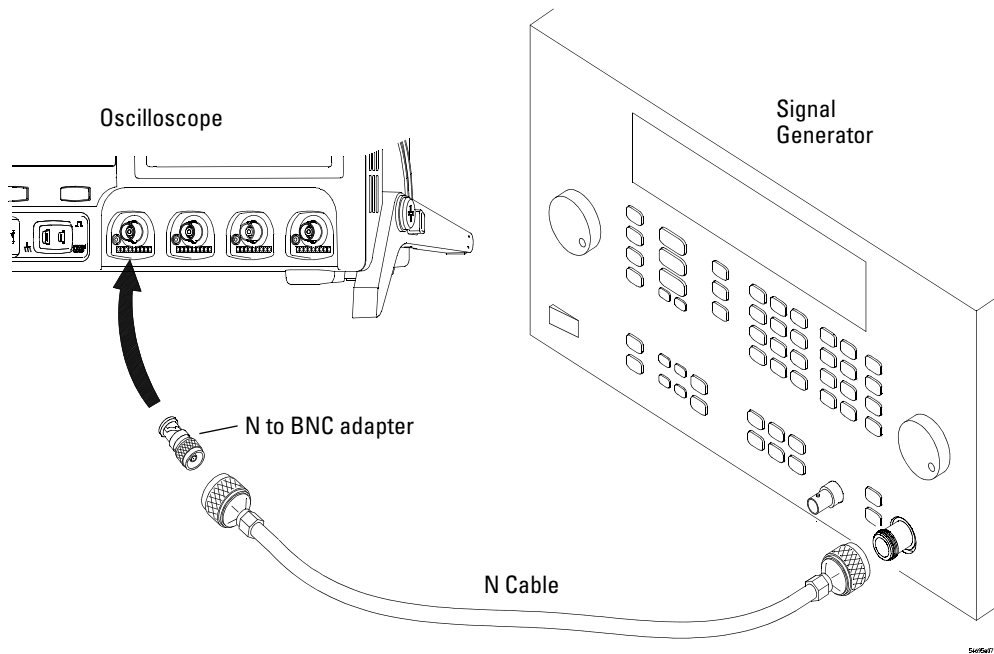

Figure 6 Setting Up Equipment for Internal Trigger Sensitivity Test
- 1 Connect the equipment (see Figure 6).